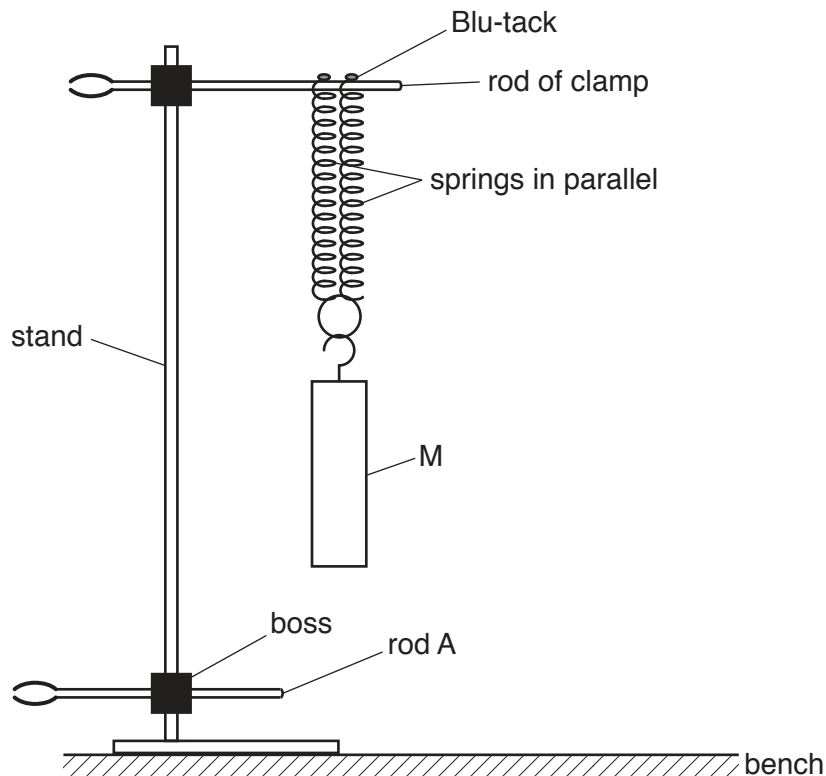

Fig. 1.1
3. The Supervisor should set up the apparatus as shown in Fig. 1.1. The loops at the tops of the springs should be about 2cm apart on the rod of the clamp and each held in place by a small piece of Blu-tack. The hook of the mass hanger should pass through the bottom loop of both springs. The second clamp should be held on the same stand, close to the bottom of the stand. The rod of the clamp should be on the same side as the springs.
4. At the changeover the Supervisor should restore the apparatus as shown in Fig. 1.1. The mass  $M$  will need to be suspended from both springs and the second clamp moved to the bottom of the stand.